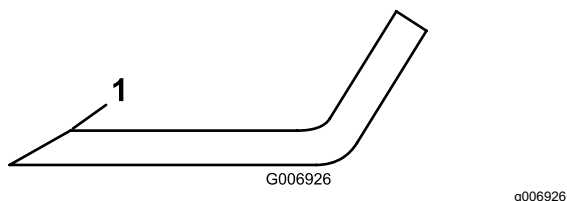

**Figure 75**
3. Examine the cutting ends of the blade carefully, especially where the flat and curved parts of the blade meet (Figure 75).